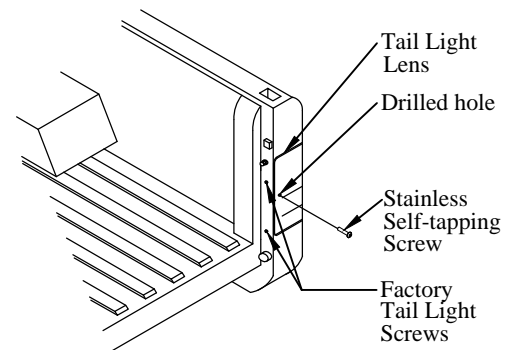

Figure 6: Tail light modification detail.
1. **Remove** the two (2) factory tail light screws from each tail light lens (Figure 6).
2. Carefully **Drill** a 9/64" hole through each tail light lens and internal sheet metal (Figure 6).
3. Carefully **Drill** a 3/16" hole through each tail light lens only, for screw clearance (Figure 6).